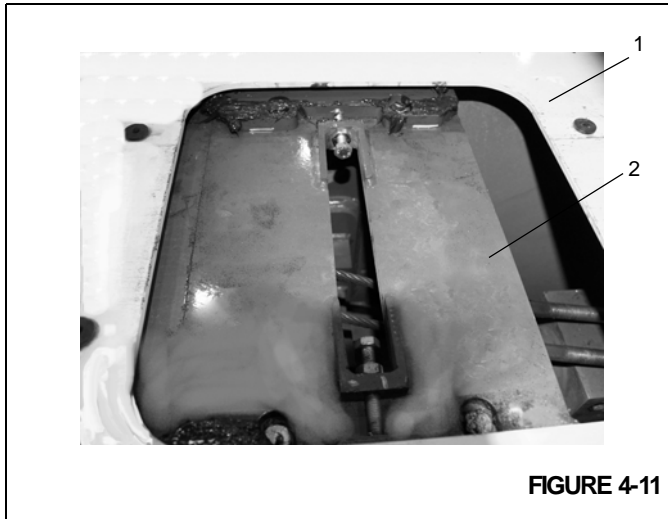

FIGURE 4-11
enough to gain access to the top rear adjustable wear pads on the inner mid (2). (Figure 4-11)